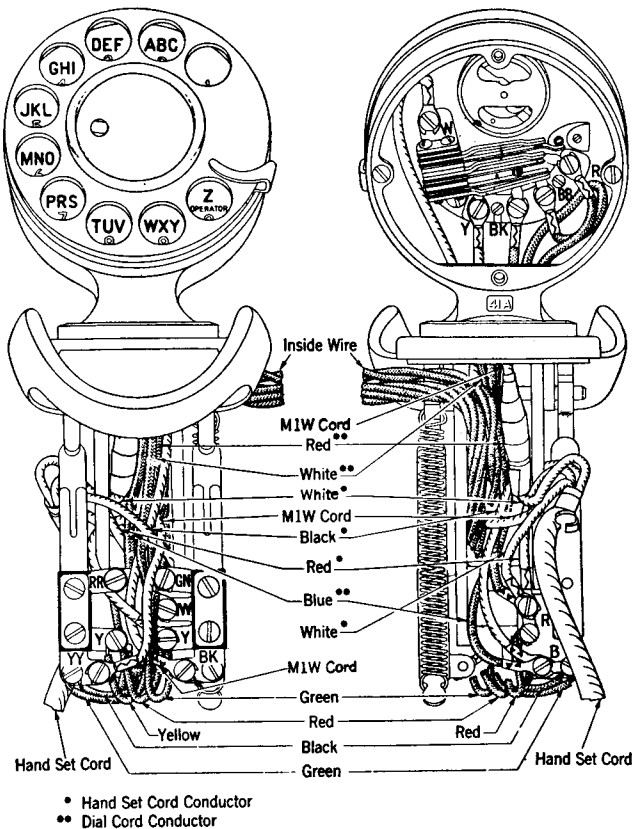

Fig. 3—G2 Type Hand Set Mounting (Dial)
2.03 The **G2 Type Hand Set Mounting** for dial stations is corded as shown on Fig. 3.